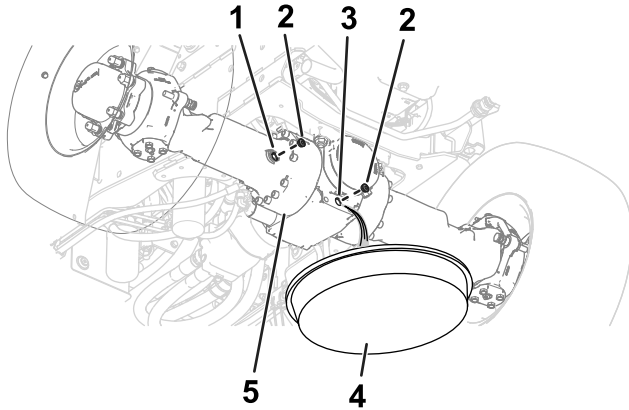
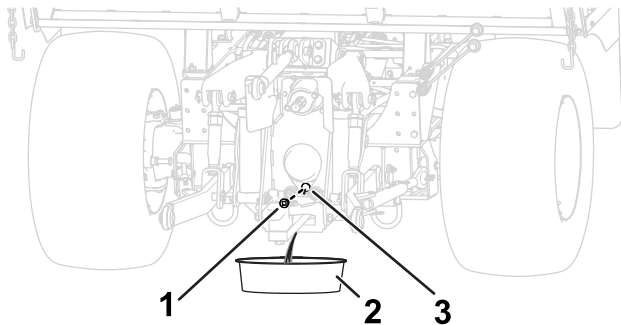

Figure 99
Figure 100
1. Place a drain pan under the differential housing of the axle (Figure 99 and Figure 100).
2. Remove the plugs from the sight port and the drain port of the differential housings for the axles (Figure 99 and Figure 100).